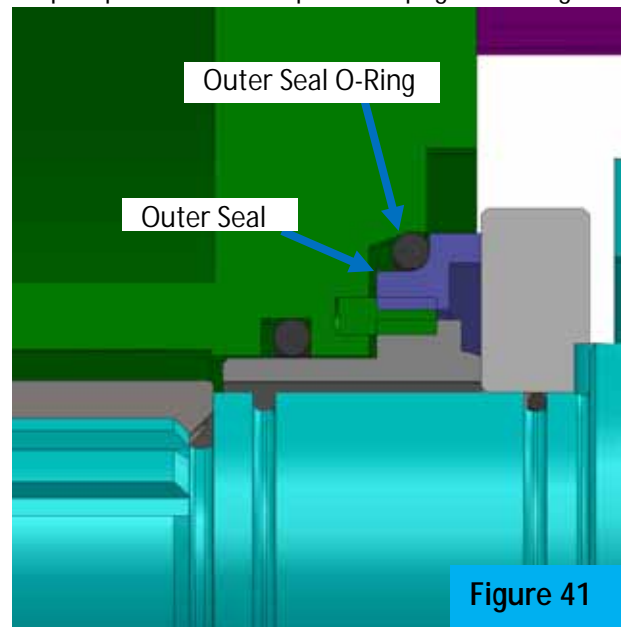

Figure 41
1. Remove inner seals from body, Figure 41. DO NOT re-use seal component. Return seal components to your distributor for reconditioning.